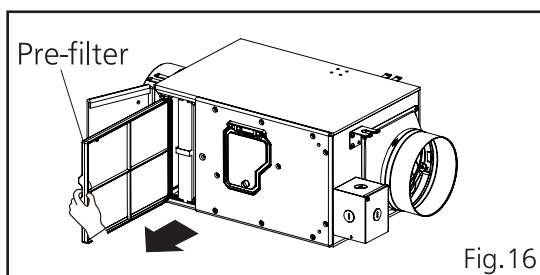

Fig.16
2. Pull out the pre-filter, clean it with water once in 3 months when filter indicator lights on with buzzer sound. (Fig.16)